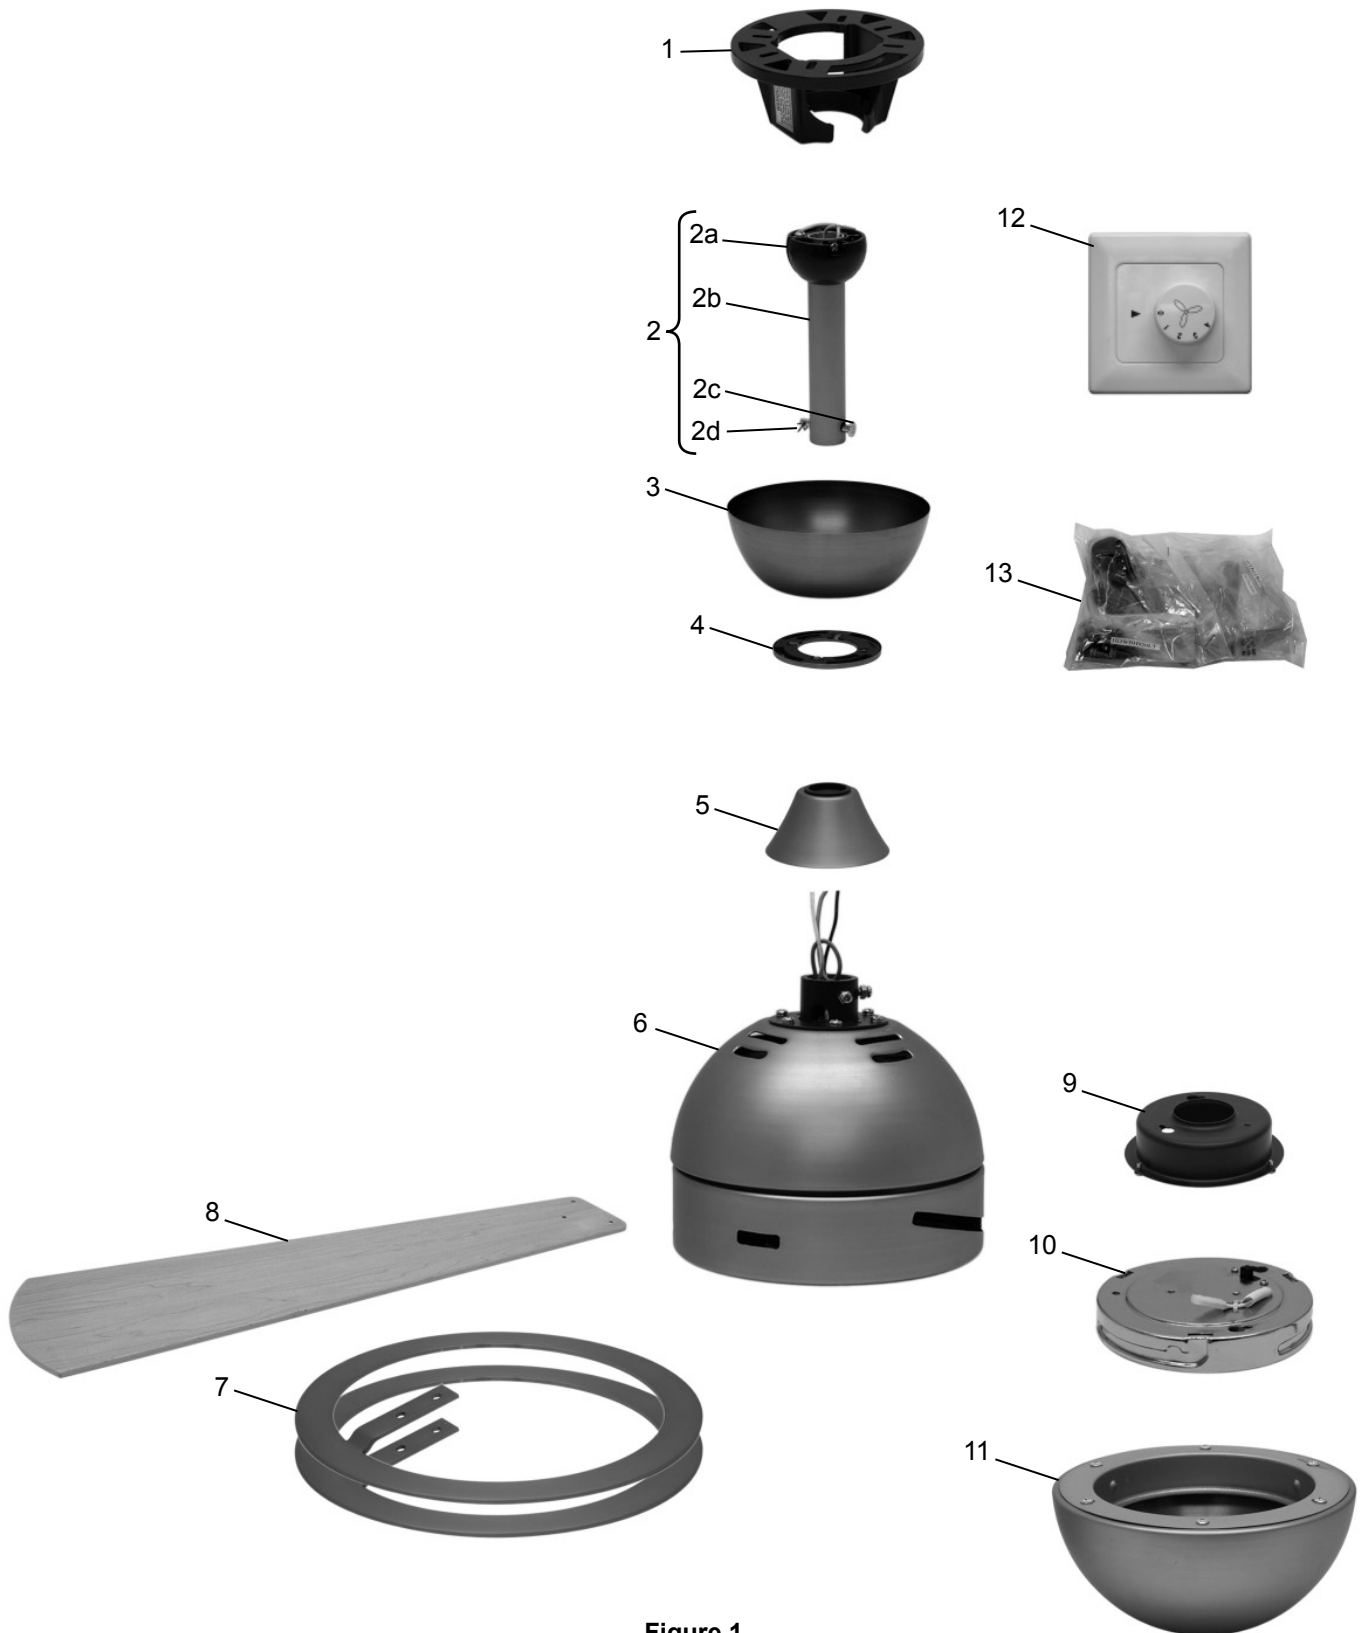

Figure 1
1. Carefully slide the two Floating Rings into the slot with the upward motion to avoid scratching the finish on the fan housing. (Figure 1)
2. Securely fasten the two Floating Rings with two screws and lock washers provided. (Figures 1 & 2)
1. Carefully slide the blade through the slot as shown. (Figure 1)